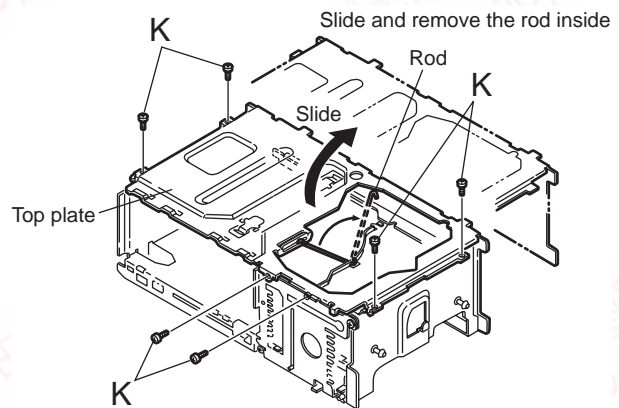

Fig.6
3.2.6 Top plate (See Fig.6 and 7)